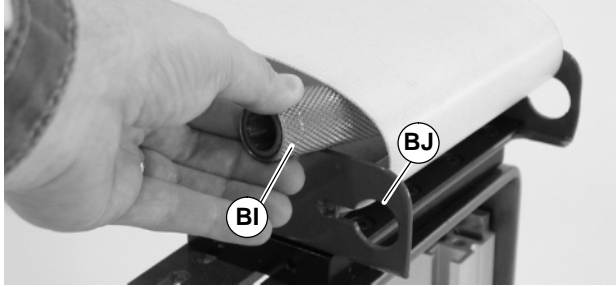

Figure 38
1. Insert pulley (BI of Figure 38) inside belt loop.